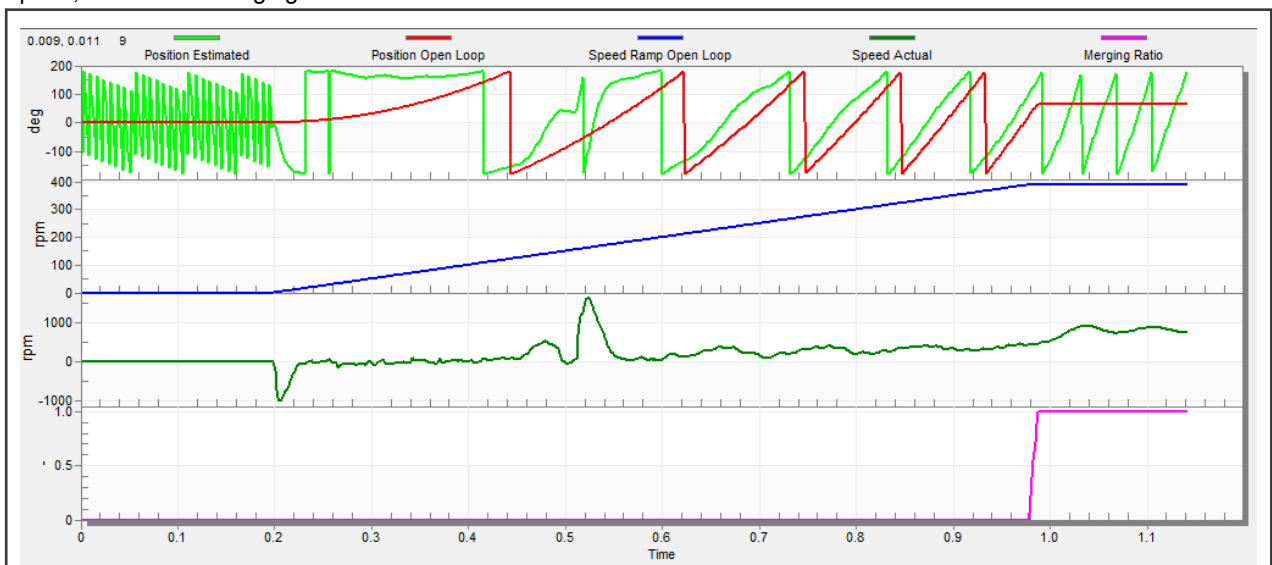

Figure 50. Motor startup
1. The start-up process can be tuned by a set of parameters located in the “Sensorless” tab. Two of them (ramp increment and current) are accessible in both tuning modes. The start-up tuning can be processed in all control modes besides the scalar control. Setting the optimal values results in a proper motor startup. An example start-up state of low-dynamic drives (fans, pumps) is shown in Figure 50.